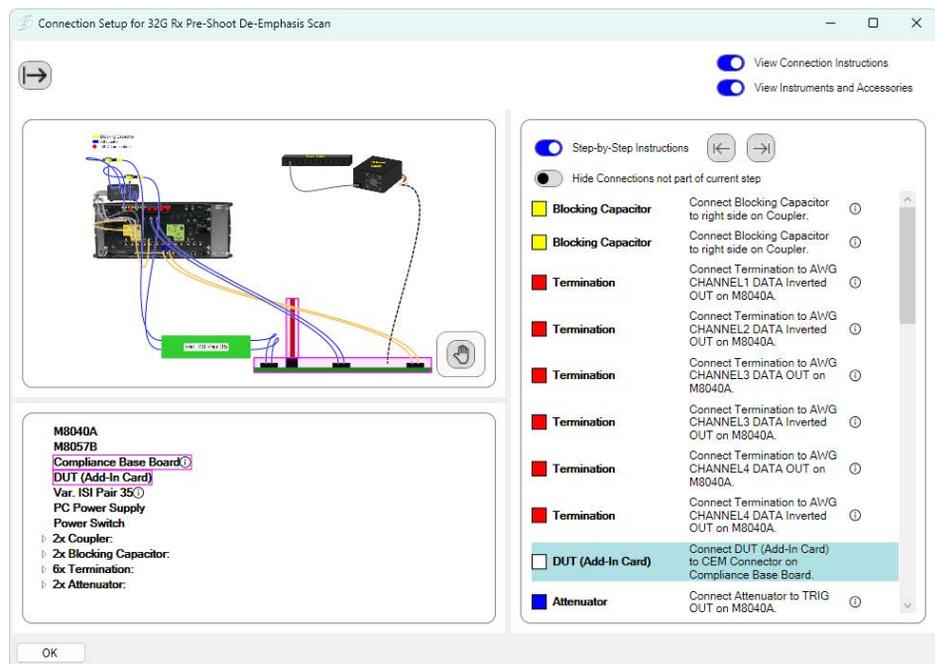

Figure 5-18 Example connection diagram dialog – all panes
- 3 **Instruments and Accessories:** Toggle to 'on' to view the list of required instruments and accessories (Figure 5-18).
In the Instruments and Accessories view, a lower pane opens that contains a list of instruments and accessories. This can also be viewed in combination with the Connection Instructions pane, as shown in Figure 5-18.
When all three panes are visible, if you click a component in the list of instruments and accessories, that component will be highlighted in the connection diagram, as will the relevant step in the step-by-step connection instructions (Figure 5-18).